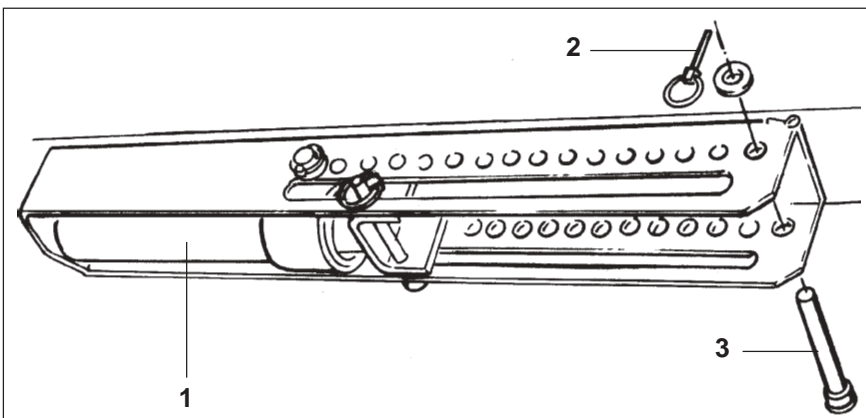

Fig. 22.6
- Relieve the hydraulic ram (Fig. 22.6/1) from pressure.
- Insert the pin (Fig. 22.6/3) into a hole of the quadrant plate and secure with clip pin (Fig. 22.6/2) .
The further the pin (Fig. 22.6/3) is moved to a right hand hole, the higher the coulter pressure will become.